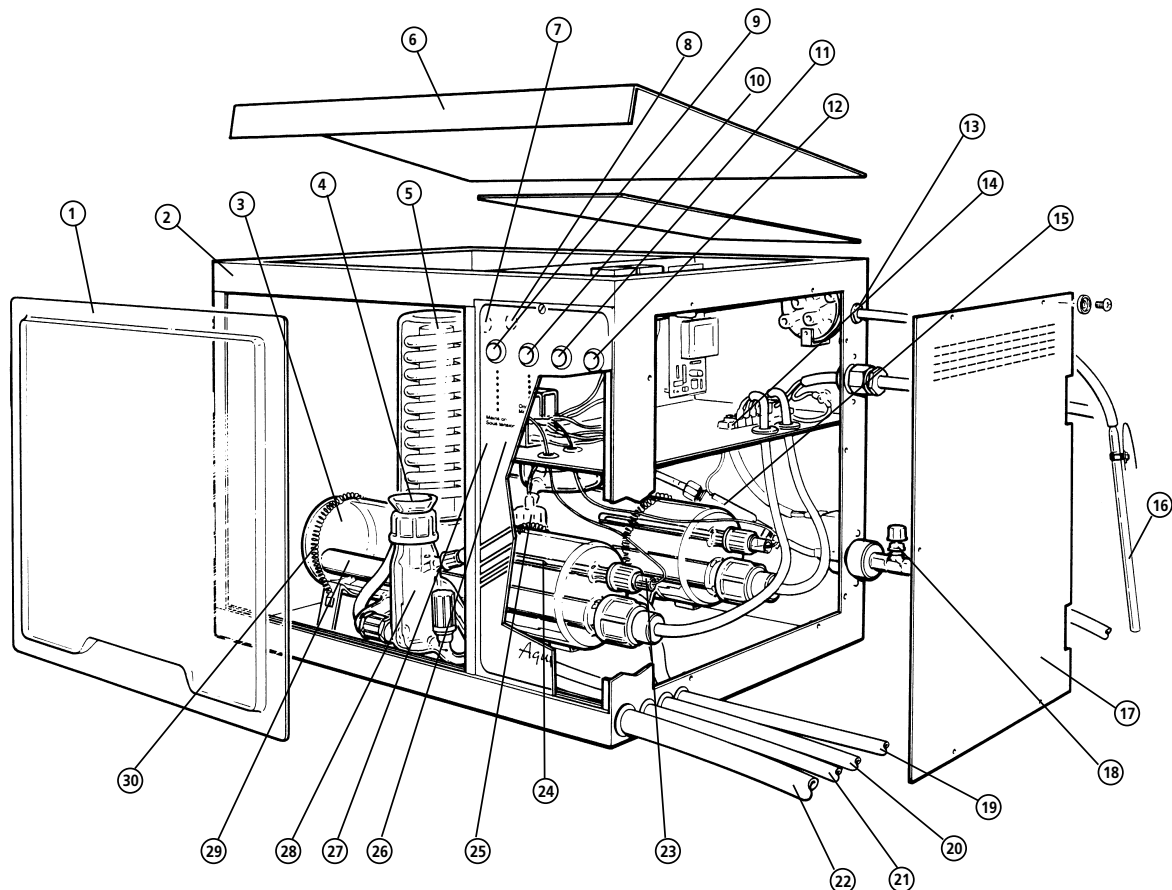

Fig 7: Major component parts A4000D
Your Aquatron A4000D has been designed with ease of assembly specifically in mind, but before commencing assembly please study the illustration, fig. 7 on page 10 to familiarise yourself with the general lay-out. During assembly, follow the sequence of instructions and do not connect the mains electricity supply until directed.
- 3 Remove the perspex viewing screen, item 1 fig. 7 by using the finger recess to lift the screen out of the lower cabinet groove, then remove the internal packing which has protected the glass boilers during transit. Also sever the temporary ties holding the boiler retaining springs, item 30, in place.
- 4 Remove the cabinet end plate, item 17 by unscrewing the six retaining screws and 'shake proof washers'. Similarly, unscrew the six countersunk screws to remove the cabinet roof.
- 5 Withdraw the metal thermostat probe, fig. 7. item 24, from the glass tube inside the front boiler.
- 6 Remove the front boiler from the cabinet by releasing the retaining springs, item 30.
- 8 Select one of the 1metre lengths of 9mm vinyl tubing and connect to the upper distillate outlet tube of the condenser. Secure with tie strap. Pass the free end of the vinyl tubing through hole, item 19 in the cabinet side.
- 9 Take the Level Control, W4L2A, item 25 and the other metre length of 9mm tubing. Connect the tubing to the lower drain outlet of the W4L2A and secure with tie strap. Feed the free end of the tubing through the opening, item 20 in the side of the cabinet.
- 11 Using the plastic coupling and rubber sleeve, item 28, couple the W4L2A to the boiler connection arm. Ensure that the Rotaflo Stopcock on the W4L2A is closed.
- 12 Connect the 4 pin DIN plug from the float switch of the W4L2A to the DIN socket, item 8, fig.7, situated inside the main chamber of the cabinet.
- 17 Take the one metre length of 16mm tubing and insert through the hole, item 22 in the cabinet side. The tubing should extend approximately 250mm into the cabinet, roughly level with the outlet of the condenser.
- 18 Identify the front boiler level control WL48, item 27, fig.7, and connect the outlet to the tubing. Secure with a tie strap. Ensure that the Rotaflo Stopcock of the WL48 is closed.
- 19 Couple the WL48 to the boiler connection arm with the plastic coupling and rubber sleeve, item 28. Ensure there are no stresses from the 16mm tubing on the connection.
- 30 Connect the cold water supply to connection 18 fig. 7.